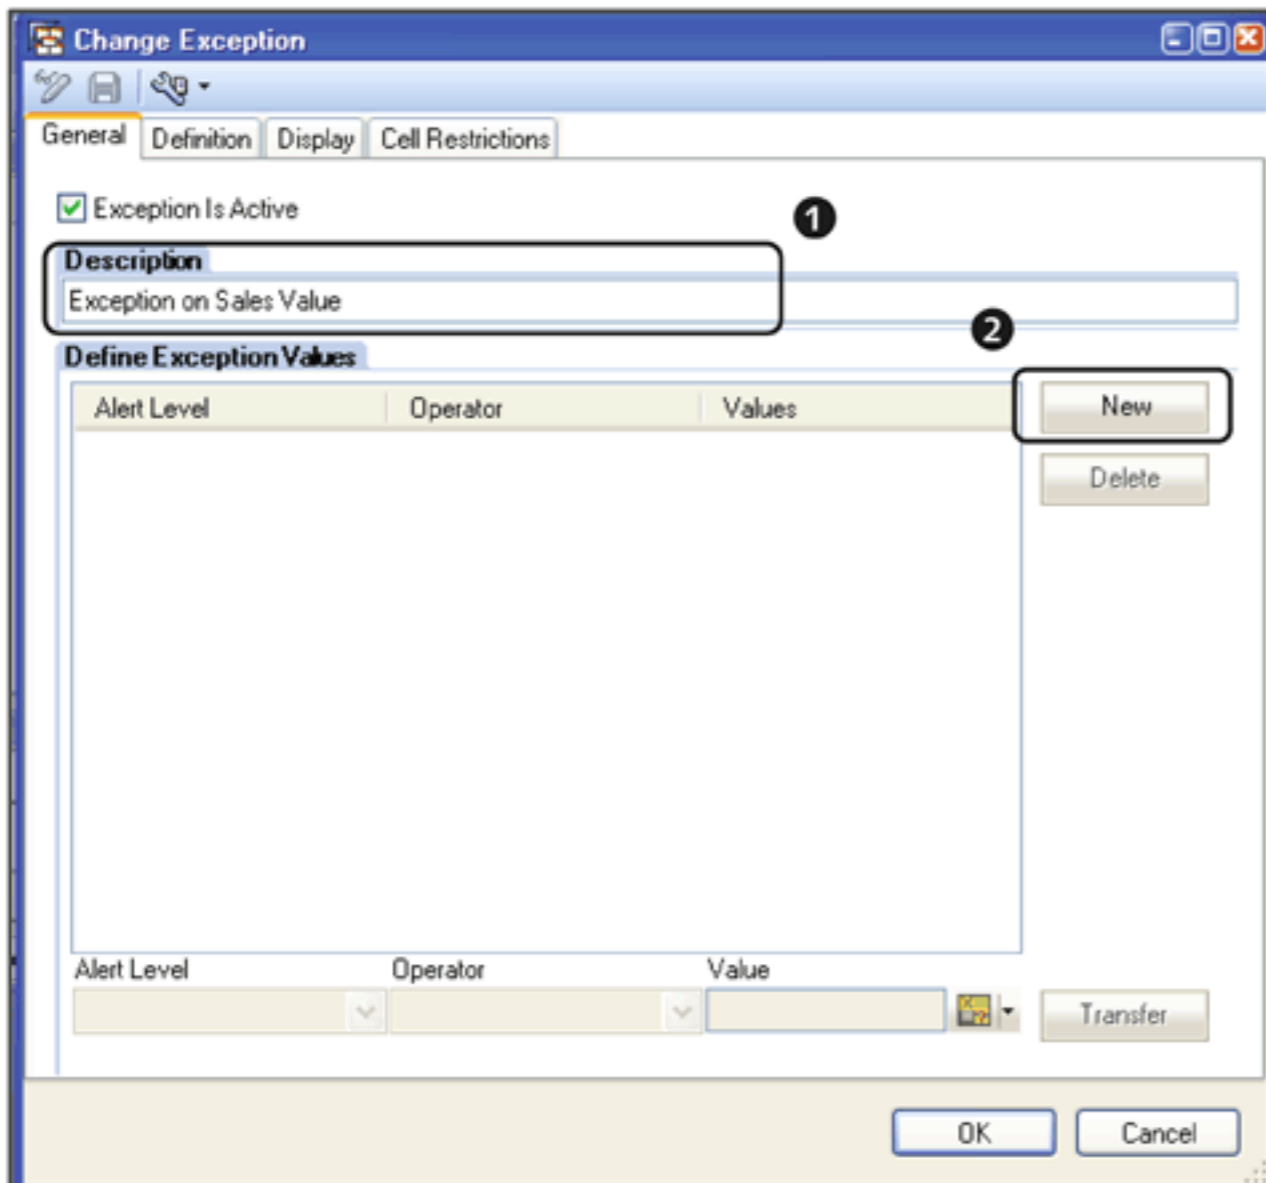

Figure 9.87 Change Exception
An exception with a system-defined default description is created (❷). To edit and define this exception, select EDIT from the context menu (❸). Maintain the DESCRIPTION for the exception (❹ of Figure 9.87).